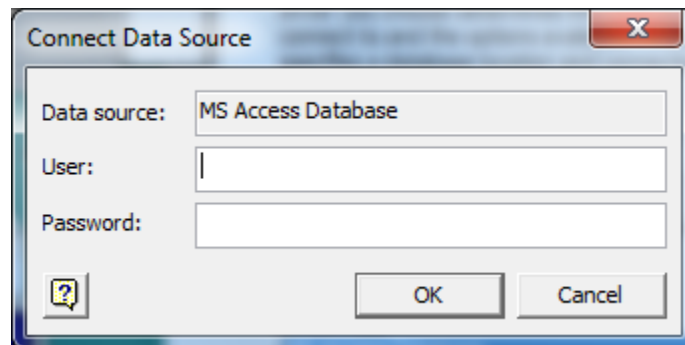

Figure 63: Connect Data Source Window
2. Connect Data Source Window: After clicking the **Next** button, the Connect Data Source window appears. You can enter the user name and password of the database administrator. Since no administrator has been defined for this database, you can leave the settings blank as shown in Figure 63.